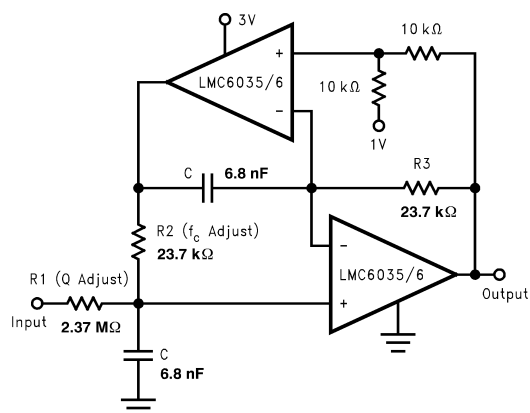

Figure 49. 2 Pole, 1kHz Active, Bandpass Filter
The dual amplifier bandpass (DABP) filter features the ability to independently adjust  $f_c$  and Q. In most other bandpass topologies, the  $f_c$  and Q adjustments interact with each other. The DABP filter also offers both low sensitivity to component values and high Qs. The following application of Figure 49, provides a 1kHz center frequency and a Q of 100.
1. First choose a center frequency ( $f_c$ ). Figure 49 represents component values that were obtained from the following computation for a center frequency of 1kHz.  $R2 = R3 = 1/(2\pi f_c C)$  Given:  $f_c = 1\text{kHz}$  and  $C$  (chosen) = **6.8nF**  $R2 = R3 = 1/(2\pi \times 1\text{kHz} \times 6.8\text{nF}) = 23.4\text{k}\Omega$